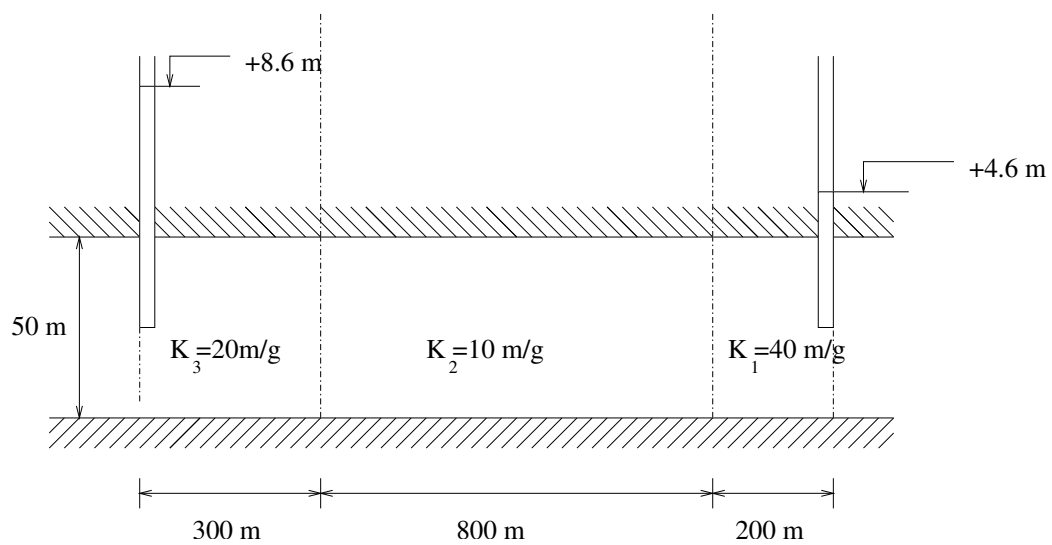

Figure 5: Exercise 6; the unit m/g is in Italian; it means m/day.
6. Given the confined aquifer of Figure 5, determine the flow rate (per unit width in the direction orthogonal to the drawing) and draw an accurate plot of the behavior of the piezometric head between the two wells.